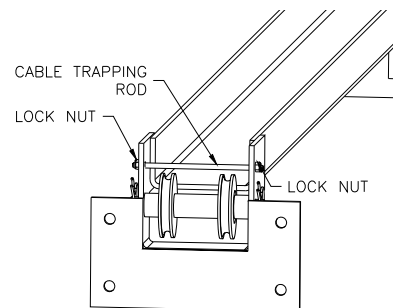

Fig. 4-Cable Trapping
- 15) At the upper beam sheave locations disassemble and reassemble the cable trapping rod to install the cable onto the sheave as shown in **Fig. 4**. At base of columns, bottom sheave will need to be removed then reassembled.